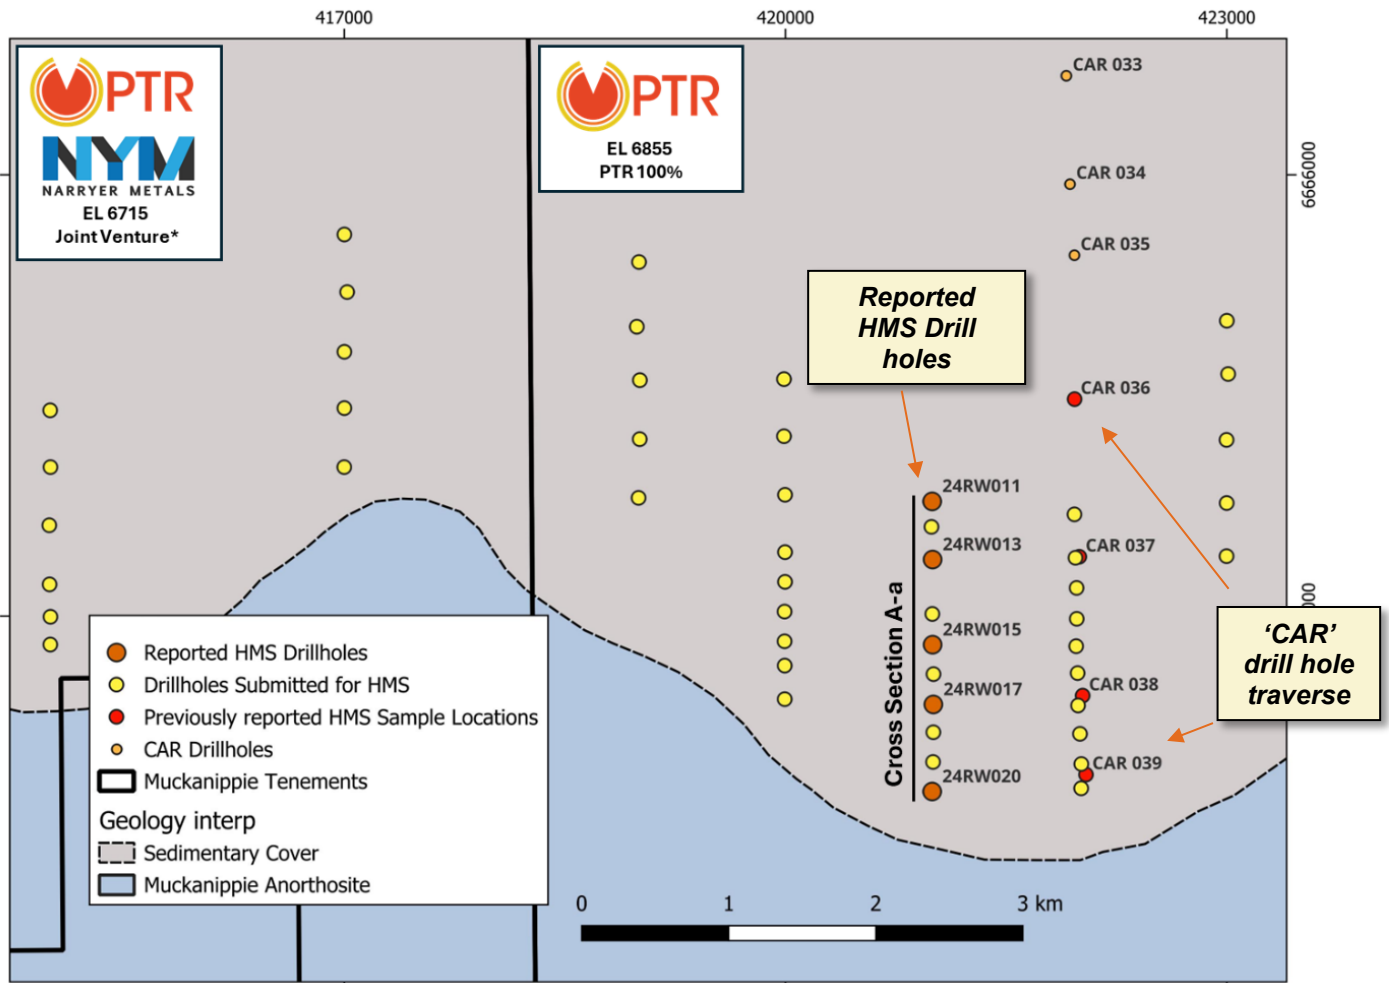
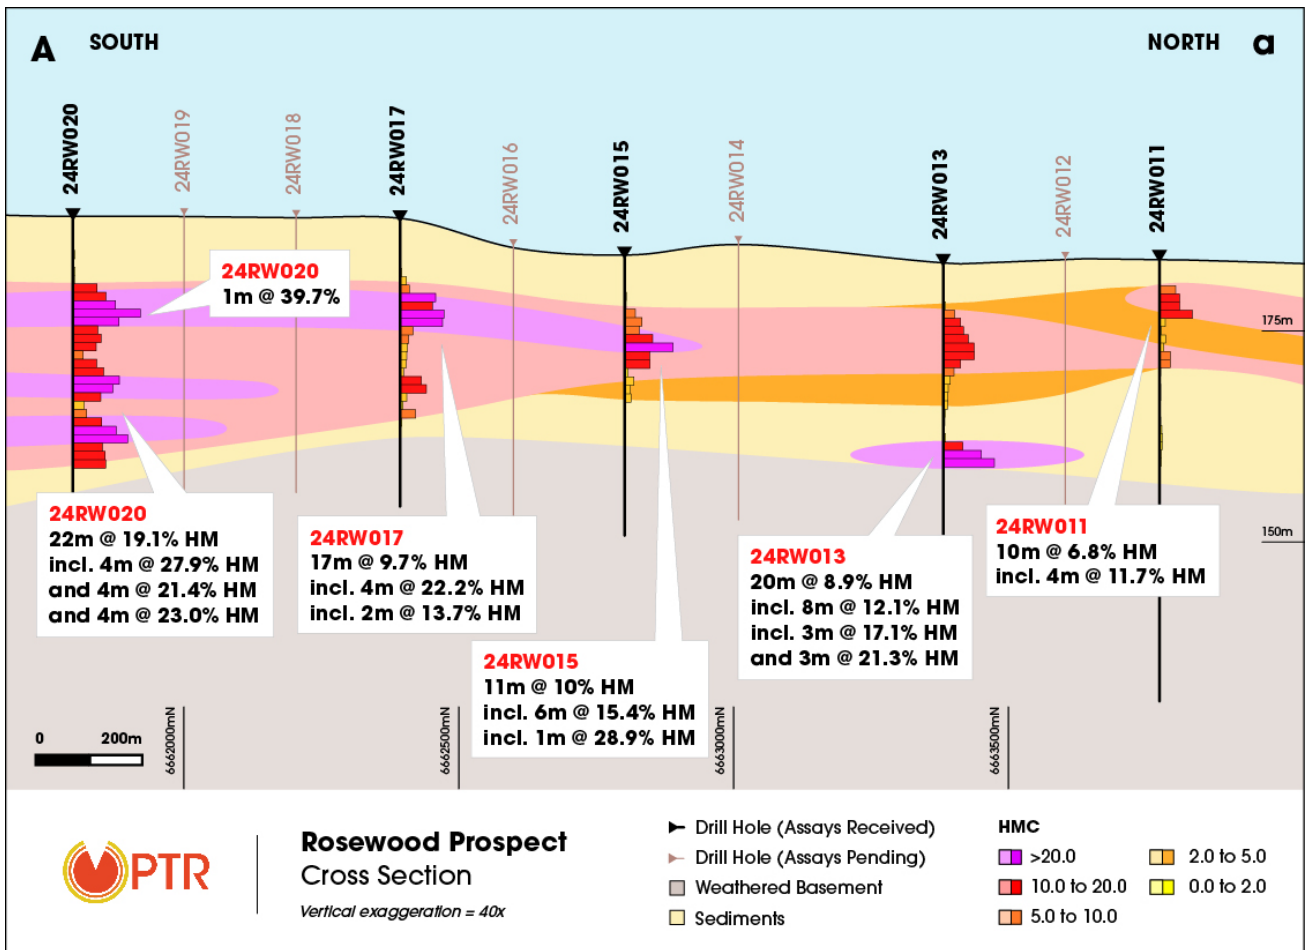

Figure 1 – Petratherm October 2024 drilling and cross-section for the Rosewood HM Prospect.
Figure 2 – Geological Cross Section A-a showing HMS results and interpreted mineralised horizons.
Petratherm Limited (ASX: PTR) (“PTR” or “the Company”) is pleased to announce maiden drill results from the Rosewood Prospect, located within the Company’s Muckanippie Project in the northern Gawler Craton, of South Australia (Figure 3). Seven drill traverses at 1 kilometre to 2 kilometre spacing have been drilled to date over the Rosewood Prospect (fifty drill holes totalling 1,697 metres). Results reported herein are an initial batch of 101 samples from 5 drill holes along a single 2.0 kilometre north-south traverse (Figure 1). Batch results from the remaining 45 drill holes are expected over the coming weeks.
PTR has previously reported high Heavy Mineral (HM) concentrations 1 kilometre to the east of the current drill traverse (Figure 1). Here composite samples from historical wide spaced drill holes over 2.5 kilometres returned HM concentrations of 12.0% and 12.5 % from shallow depths. Laboratory analysis additionally confirmed high titanium mineral content with analyses of HM fraction indicating high rutile of 19-21%, 4-7% Anatase and 68-
Holes at Rosewood were drilled on north-south traverses spaced between 1 kilometre and 2 kilometres apart (Figure 1). Drill traverses varied from 1.6 kilometres to 2.2 kilometres in length, with variable spacing of 200 metres to 400 metres along the traverses. These initial batch results are from 5 holes spaced 400 meters to 600 metres apart over a 2 kilometre trend. The initial small batch was fast tracked to confirm nature of mineralisation and to ensure HM could be recovered using standard Heavy Liquid Separation (HLS) methods. A summary cross-section is shown in Figure 2 graphically outlying the mineralisation. Please note an additional 5 infill drill holes are pending results along this drill section.